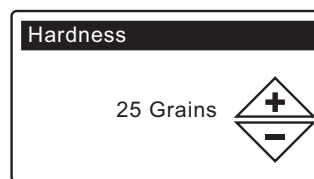

FIG. 19
7. **HARDNESS** Press the UP (▲) or DOWN (▼) buttons to set the value of your water’s hardness (See Figure 19).